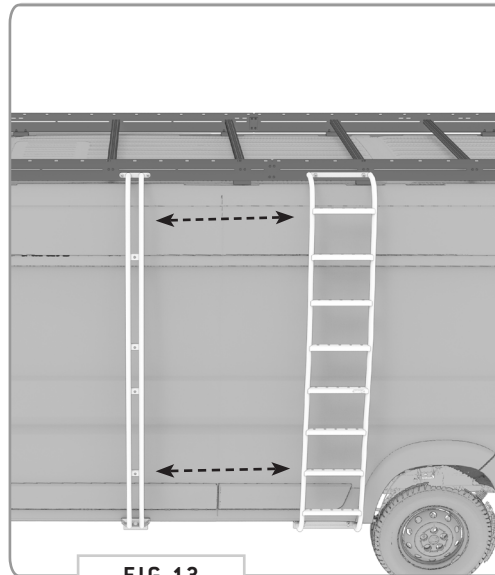
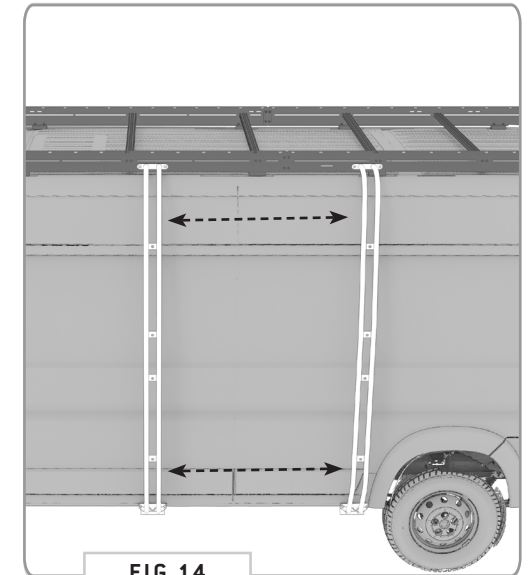

FIG 13
FIG 14
**4.2 Align Pole to Secondary Mounting Point:** Whether you are using an FVC Side Ladder (FIG 13) or a secondary Surf Pole (FIG 14), measure to ensure that the distance between mounting points is square from the top to the bottom.